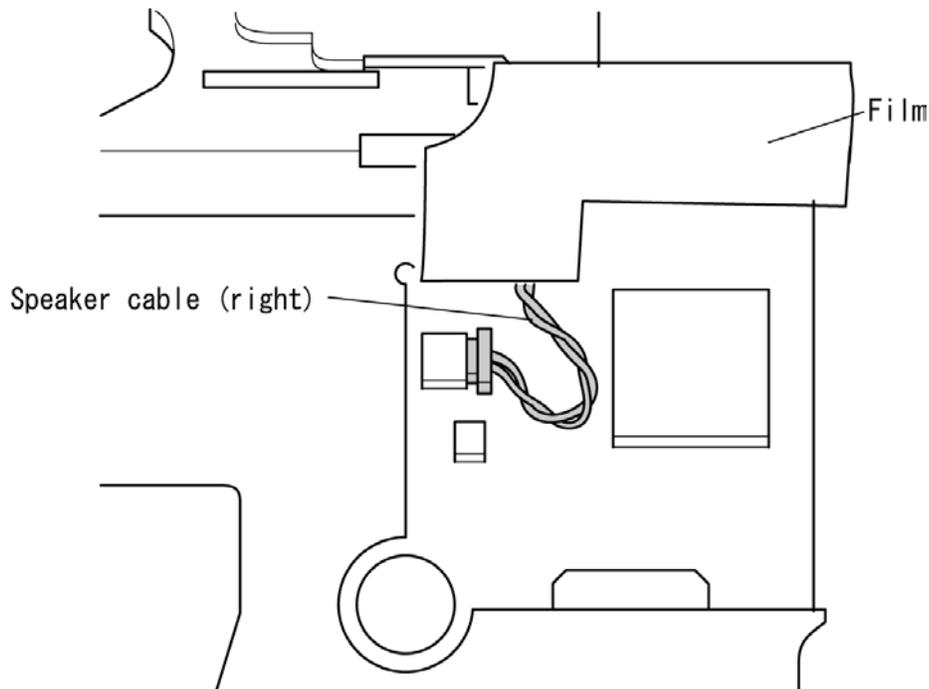

Figure 4-32 Route the Right Speaker cable
**CAUTION:** Be careful to route the cable so that the Top cover will not pinch it. Make sure it lies to the left of the IC 312. Refer to Figure 4-32.